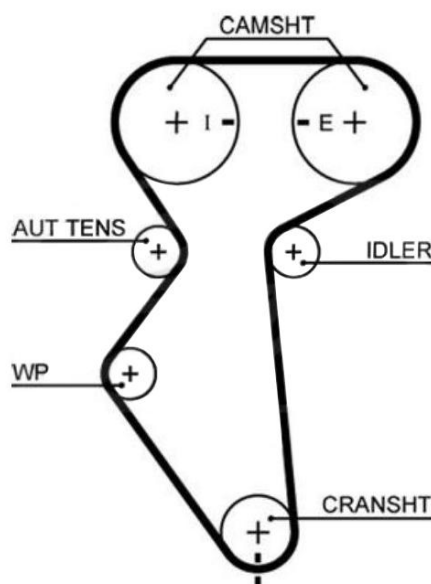

Fig. 1
On this drive, the main failure is caused by not rotating the water pump at installation, needed to set the correct belt tension. Although the drive is equipped with an 'automatic' tensioner, this still has to be set up correctly. This drive requires manipulation of the eccentric water pump, located below the tensioner (Fig. 1)
- Put the engine at TDC (Top Dead Centre): rotate the crankshaft clockwise until the timing mark on the crankshaft gear is aligned with the notch at the bottom of the rear timing belt cover, and aligned the timing marks on the camshaft gears (Fig. 1). Block the camshaft.